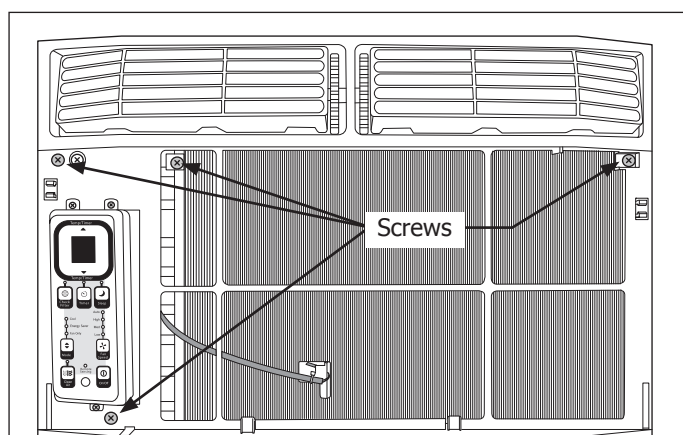

Figure 4-89.
6. Extract the four screws securing the front panel to the unit frame. (See Figure 4-89)